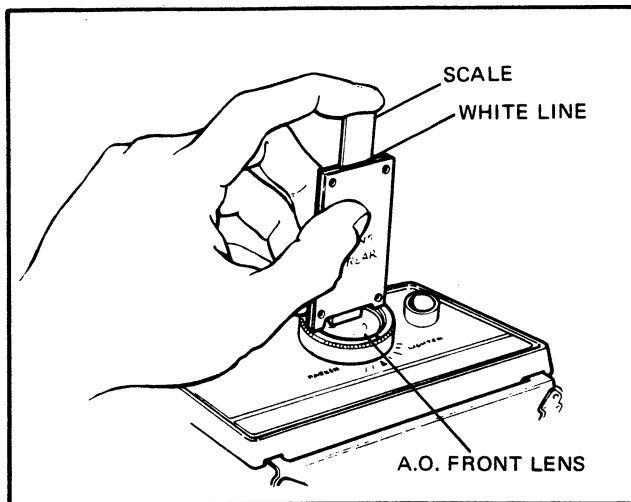

FIG. 5.20 IDENTIFYING THE FRONT LENS
- b. Position the gage over the front lens as shown in Figure 5-20.